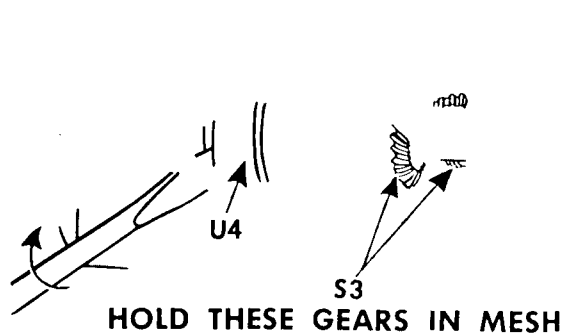

Fig. 67. Removing the Arm Shaft
CAUTION: The feed timing bevel gears at **S3** have been lapped together at the factory and **should be kept in mesh**, as instructed in **Fig. 67**, throughout the removal and replacement of the arm shaft.
14. While maintaining position of needle bar crank, as described in **Step 13** on **page 45**, hold the blade of a large screwdriver between the arm casting and the feed eccentric **U4**, as shown in **Fig. 67**, to keep the bevel gears in mesh and push the end of the arm shaft **X4**, **Fig. 67** into the bushing **Z4**, **Fig. 67**.